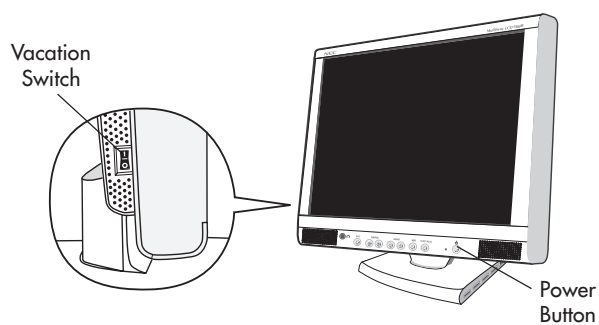

Figure H.1
8. The Vacation Switch on the left side of the monitor must be turned on (**Figure H.1**). Turn on the monitor with the front power button and the computer.